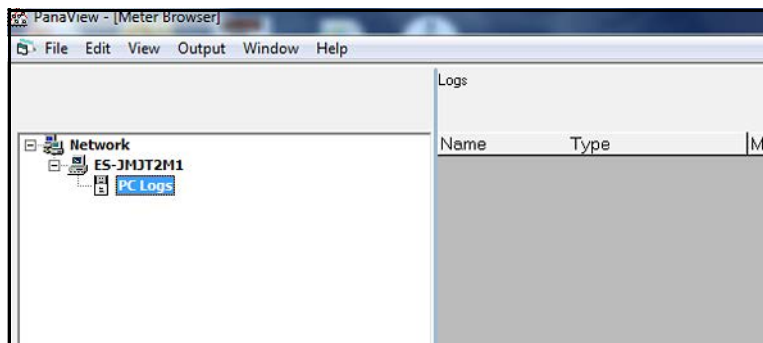

Figure 25: The PC Logs Branch
2. Fully expand the network tree by clicking on the “+” sign next to the *My Computer (Name)* branch (see Figure 25 below).
1. Open the "New Meter Browser" window and expand the network tree as shown in Figure 25 on page 19. Then, highlight the *My Computer (Name)* branch by clicking on it.